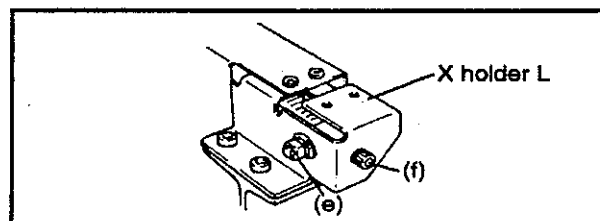

FIG.3
- (1) If amount of deflection G of drive belt A differs from that specified, loosen nut (e) and adjust the deflection using hex socket screw (f) (Fig.3).